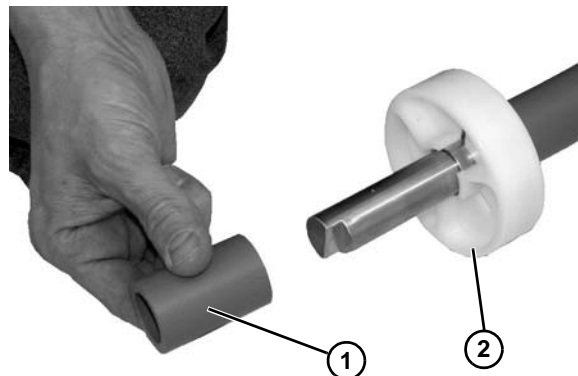

Figure 49
5. Slide off the round puck spacer (Figure 49, item 1).
6. Slide off puck (Figure 49, item 2) and replace if worn.